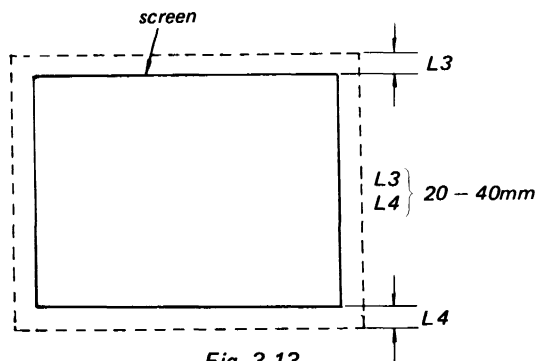

Fig. 3-13
- (14) Adjust RV5539 (V SIZE (G)) so that the vertical picture size is as shown in Fig. 3-13.